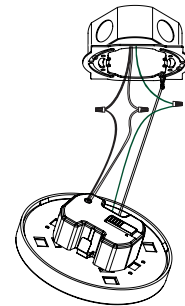

fig. 3
4. Wire to the power source (black to hot, white to neutral, green to ground). For 0-10V dimming circuits, connect grey to grey and purple to purple. (fig. 3)